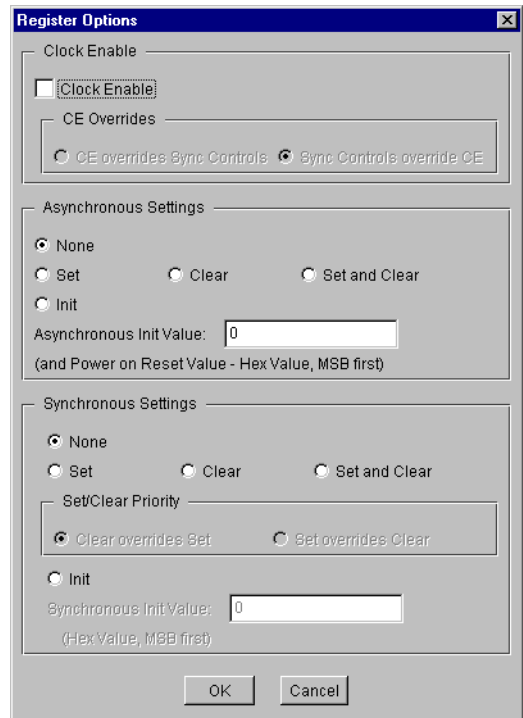

Figure 2: RAM-based Shift Register Options Parameterization Screen
- Register Options:** Clicking on this button brings up the Register Options parameterization screen (see Figure 2). This button is only enabled for **Fixed Length** modules.
The Register Options parameterization screen for this module is shown in Figure 2. The parameters are as follows: